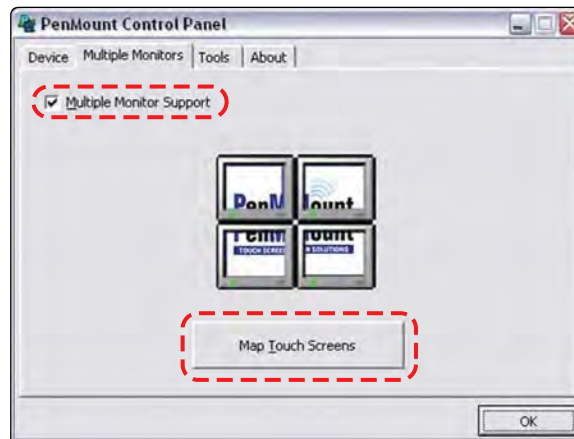

Figure 17-5 Sample Multiple Monitors tab
4. With the **Multiple Monitor Support** box checked, select the **Map Touch Screens** icon (Figure 17-5).